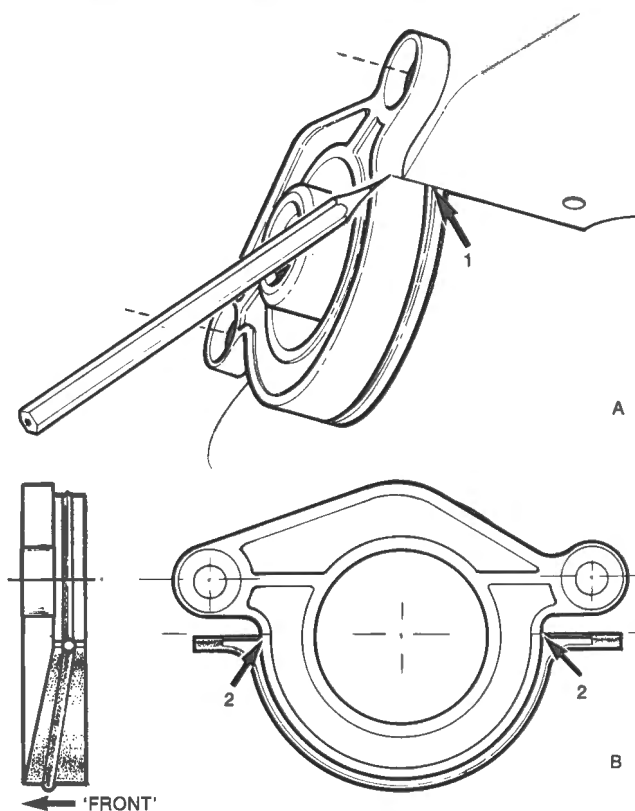

Fig. E-8
- 3 Using a lead pencil mark the position of the end of the crankcase rails on the housing. Refer Fig. E-8.